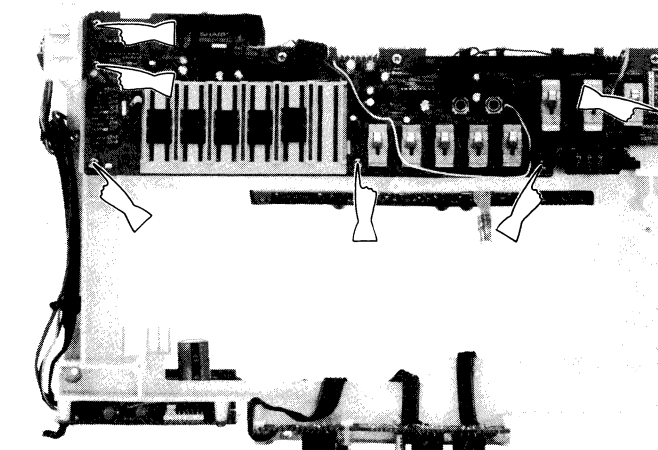

Figure 6-8
1. Remove eight screws at the record/playback P.W.B., and shift it upwards and detach. See Figs. 6-8 and 6-9.